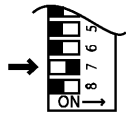

Fig. 3
9. Set the Infinity to 'Forced Low' combustion by setting No.7 dip switch of the (SW1) set of dip switches to 'ON'. (Fig.3).